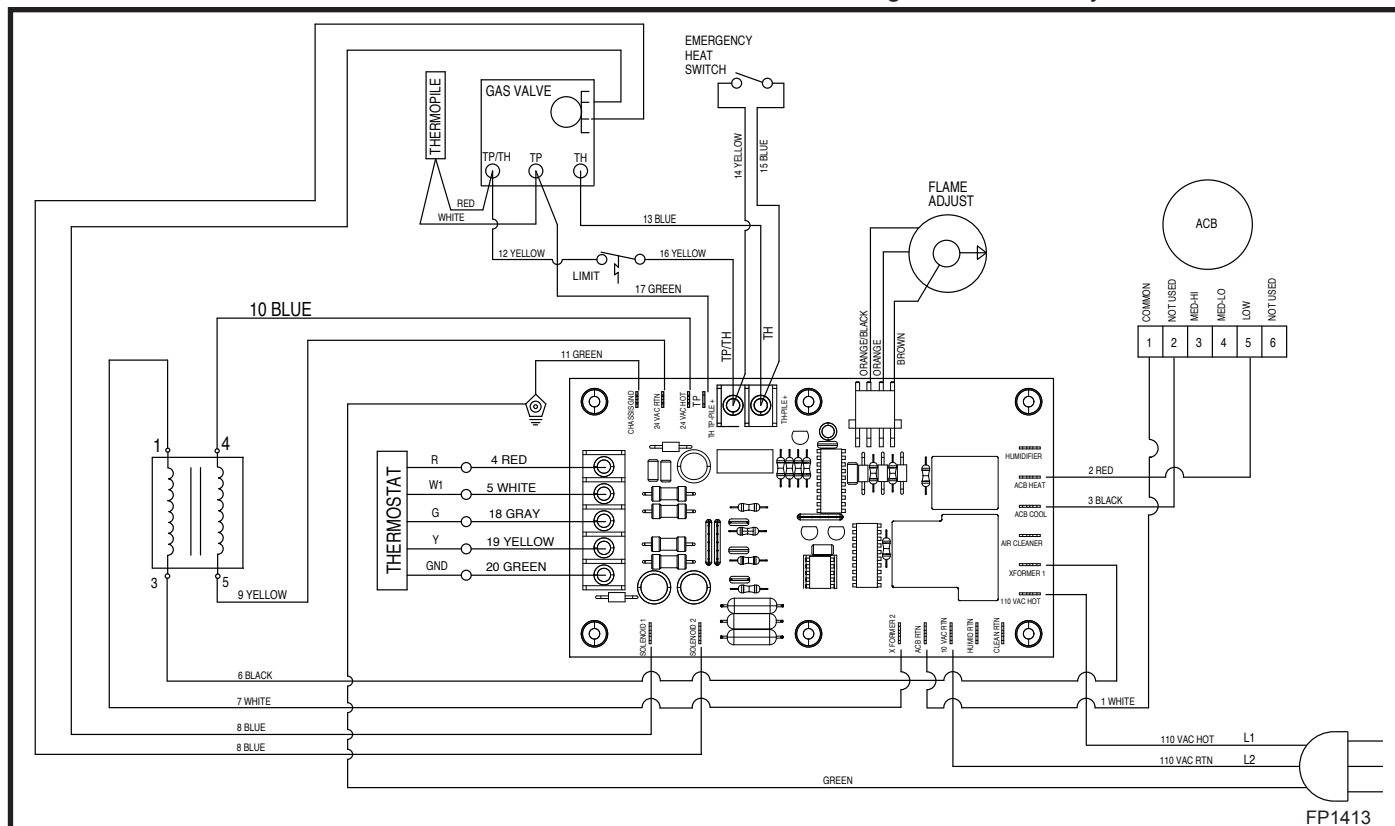

Fig. 8 DVHVAC36 wiring diagram.
5. Attach the metal conduit from the fireplace cabinet to the 7/8" diameter hole in the side of the air circulating blower section using the nut provided. Do not feed the two yellow wires which are outside the conduit through the hole. Insert the terminal on the white wire (common) into position 1 on the jack plug. Insert the terminal on the black wire (cooling speed) into position 2 on the jack plug. Insert the terminal on the red wire (heating speed), into position 3, 4 or 5 on the jack plug. If unsure, select position 4 on the jack plug for heating speed and adjust if necessary. If desired the speed selections can be changed later. Refer to Figure 8 Wiring Diagram.
Refer to Figure 8 for field wiring.